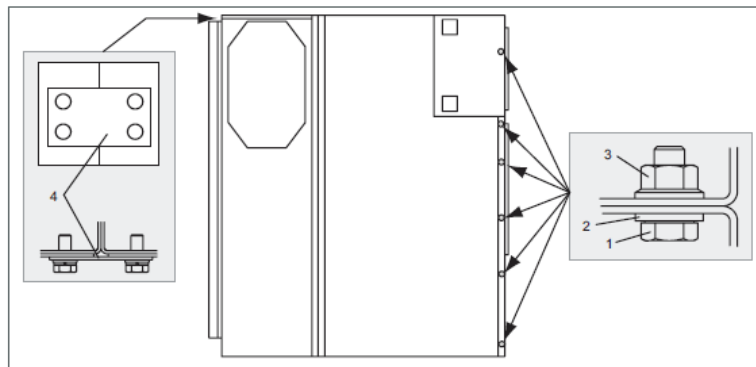

Figure 48
1. Screw-fastening panel fronts to one another using 6 fastening points (Figure 48).